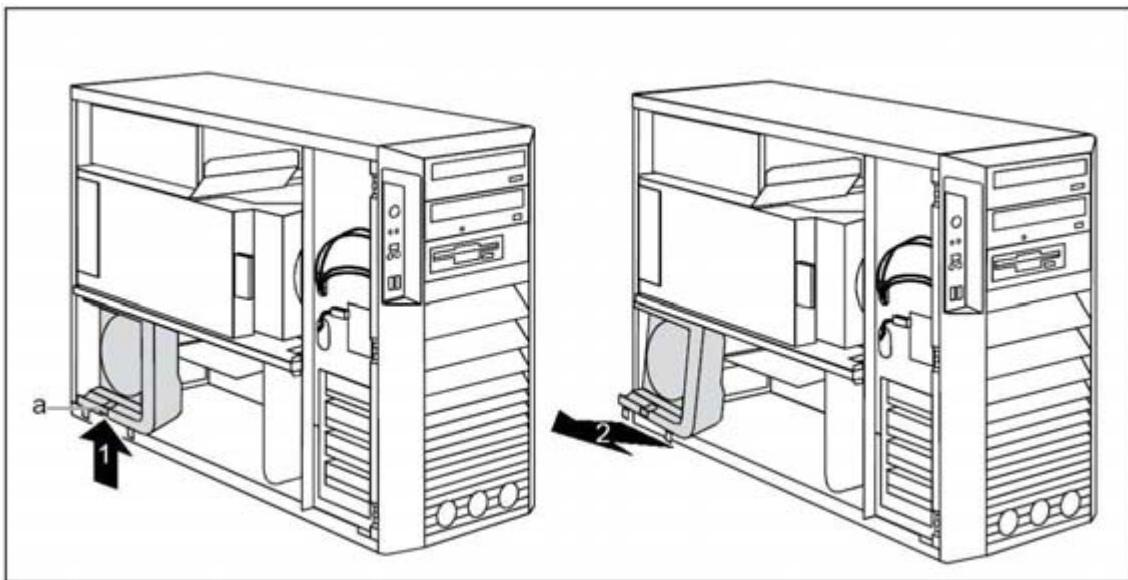

Fig. 60: Removing the side fan M450\_
3. Release the side fan by pressing the locking hook ((a/Fig. 60 / p. 106) in the direction of the arrow ([1/\[Fig. 60 / p. 106\]\(#\)](#)).
4. Pull the bottom edge of the side fan out of the casing ([2/\[Fig. 60 / p. 106\]\(#\)](#)) in the direction of the arrow.